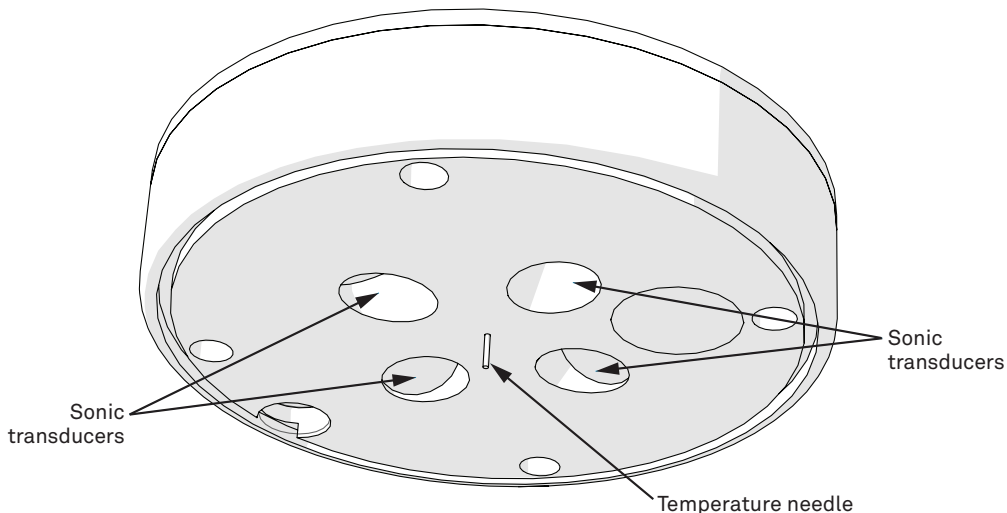

Figure 10 Temperature needle and sonic transducers
DO NOT touch the temperature sensor needle (Figure 10).
Avoid more than light pressure on the sonic transducers (Figure 10).
NOTE: Do not allow water to enter the ultrasonic sensors (Figure 10). Water may corrode the metal parts inside the sensors and ruin them. Do not touch the temperature sensor when cleaning because it is very delicate and can be damaged if pushed into the ATMOS 41 body.
3. Make sure nothing is obscuring the temperature sensor or the sonic transducers shown in Figure 10 (cobwebs, leaves, wasp nests, etc.).